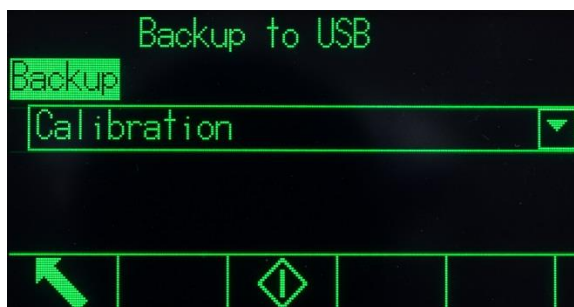

Figure 5-2: Backup to USB
2. Press the SETUP softkey . Navigate to **Maintenance > Run > Backup to USB**. Press ENTER. The screen shown in Figure 5-2 will appear.